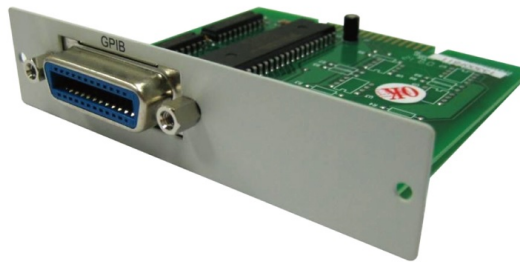

Fig 2-5 3302G GPIB interface
- Please make sure the lock screws are firmly hand-tightened, use a Screwdriver only for the removal of screws. Fig 2-5 shows the rear Panel of 3302G mainframe, The GPIB address of the 3302G mainframe is Set on front panel.